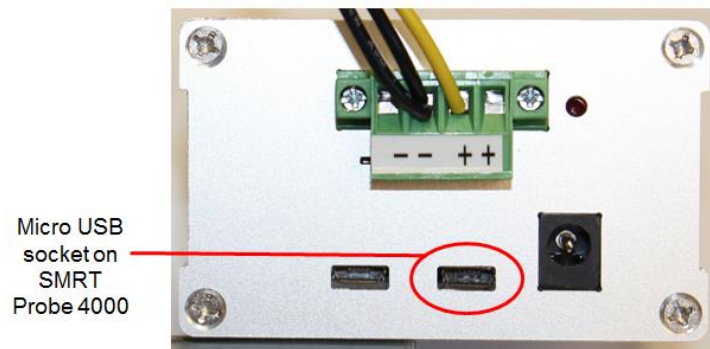

Figure 6: SMRT Probe 4000 micro USB cable socket
5. Connect the micro USB cable to the SMRT Probe 4000 socket shown in Figure 6.